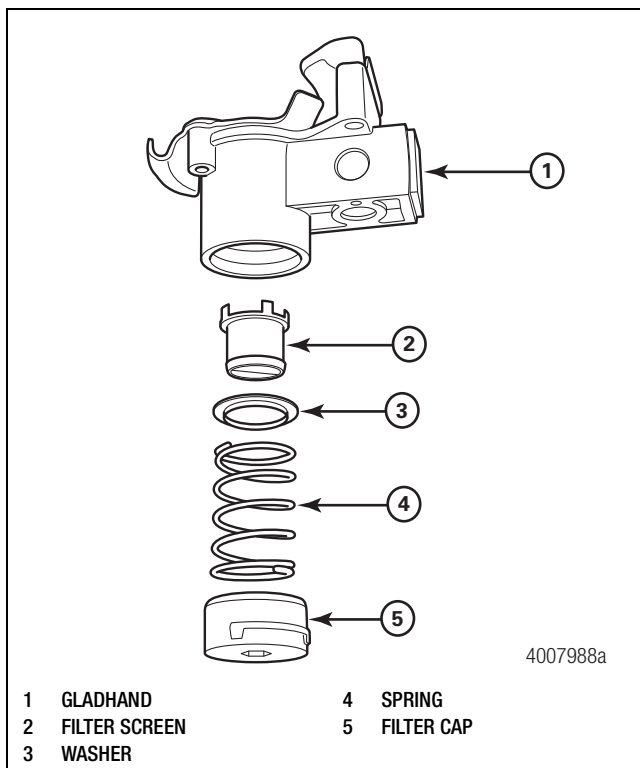

Figure 7
3. Using a 10 mm hex wrench, press and rotate the filter cap 1/4 turn (can be either CLOCKWISE or COUNTERCLOCKWISE). Figure 7.
7. Install the loose parts into the gladhand housing. Refer to Figure 7 for the order of components. Be sure that the washer is installed correctly. Note that the lip follows the side of the filter screen. Figure 7, item 3.